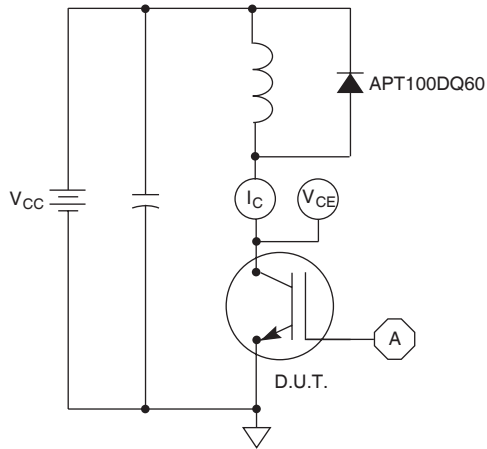

Figure 21, Inductive Switching Test Circuit
- ① Repetitive Rating: Pulse width limited by maximum junction temperature.
- ② For Combi devices, I_{ces} includes both IGBT and FRED leakages
- ③ See MIL-STD-750 Method 3471.
- ④ E_{on1} is the clamped inductive turn-on energy of the IGBT only, without the effect of a commutating diode reverse recovery current adding to the IGBT turn-on loss. Tested in inductive switching test circuit shown in figure 21, but with a Silicon Carbide diode.
- ⑤ E_{on2} is the clamped inductive turn-on energy that includes a commutating diode reverse recovery current in the IGBT turn-on switching loss. (See Figures 21, 22.)
- ⑥ E_{off} is the clamped inductive turn-off energy measured in accordance with JEDEC standard JESD24-1. (See Figures 21, 23.)
- ⑦ R_G is external gate resistance, not including $R_{G(int)}$ nor gate driver impedance. (MIC4452)
- ⑧ Continuous current limited by package pin temperature to 100A.